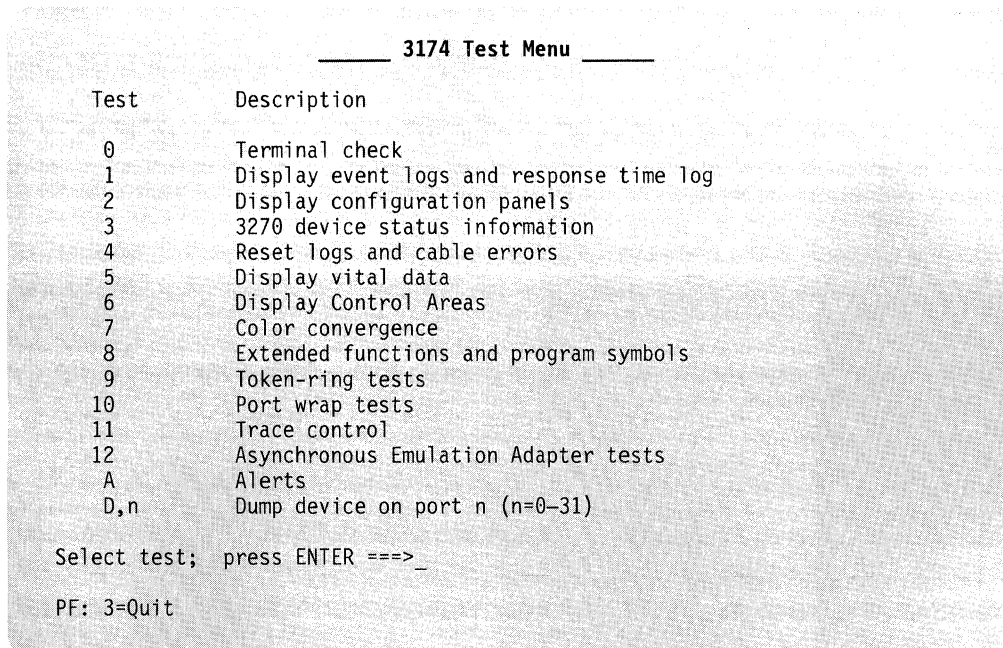

Figure 3-1. 3174 Test Menu
**Invoking test mode:** To enter test mode, press and hold the **ALT** and then press the **TEST** key on an attached display station keyboard. The tests can be selected by entering one of the test formats shown below or from the 3174 Test Menu shown in Figure 3-1 on page 3-5.
The 3174 Test Menu is shown in Figure 3-1. To display this menu, perform the following steps at any 3278 or similar display.